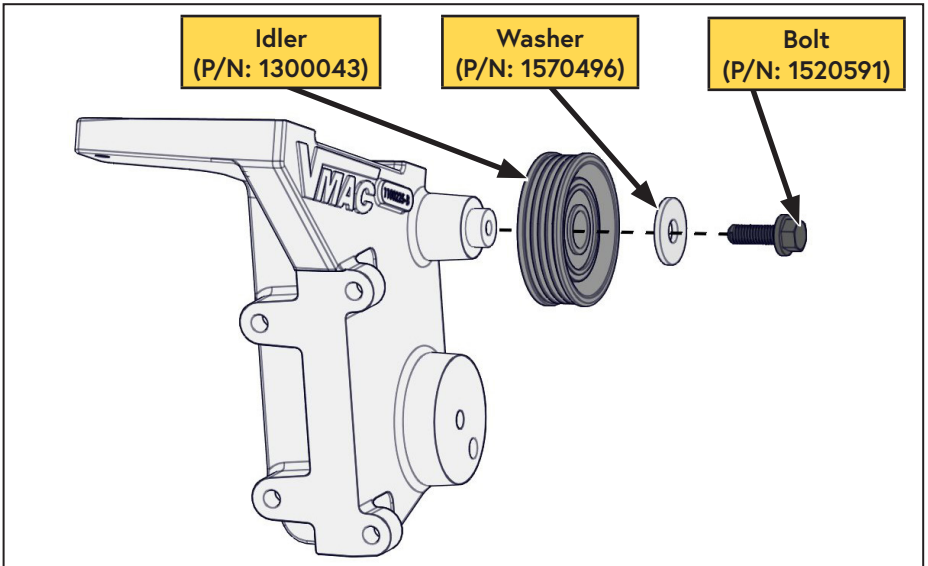

Figure 19 — VMAC main bracket idler
- Install the VMAC idler on the main bracket and torque to specification (Figure 19).